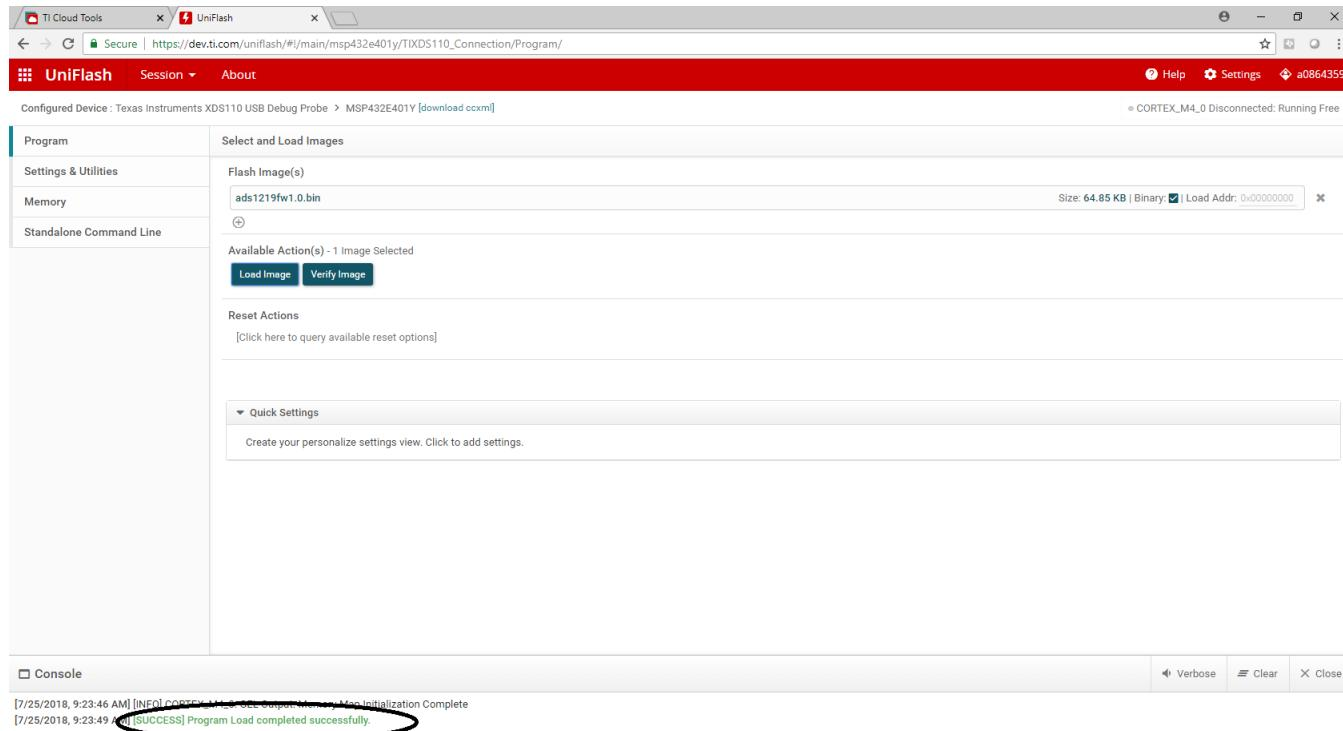

Figure 11. UniFlash: Successful Download
5. The console at the bottom of the UniFlash window shows the result of the loading process. The correct response is **[SUCCESS] Program Load completed successfully**, as shown in Figure 11. If this response is not shown or an error message is displayed try the *Load Image* button again. You may have to unplug and plug the USB cable to the LaunchPad™ again to reset communication.